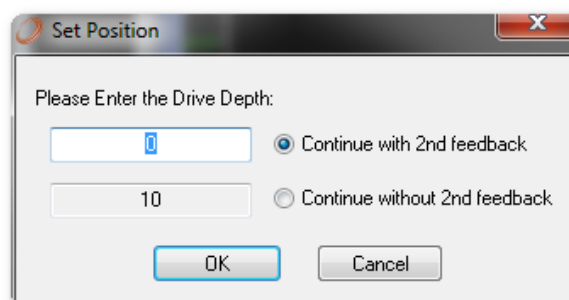

Figure 72: Set Position Dialog Box
- a. If the **Set Position** dialog box appears (*Figure 72*), do the following:
1. In the **Set Position** dialog box (see *Figure 72*), select **Continue with 2nd Feedback**.